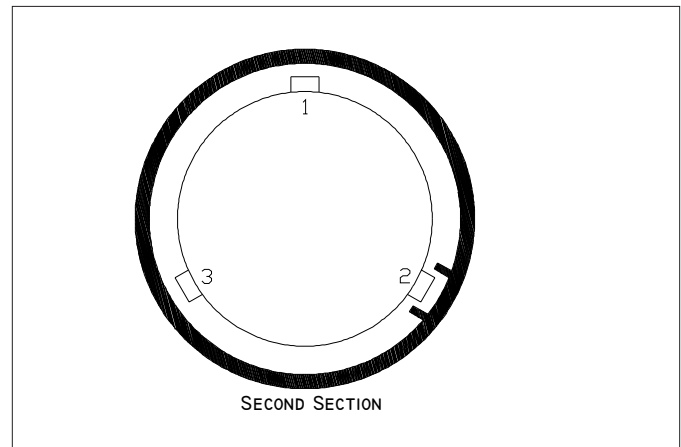

figure 2
- b. Slide the first section onto the core with the drive pins on either side of the tube 1 (figure 2). Make sure that the drive pins face up.